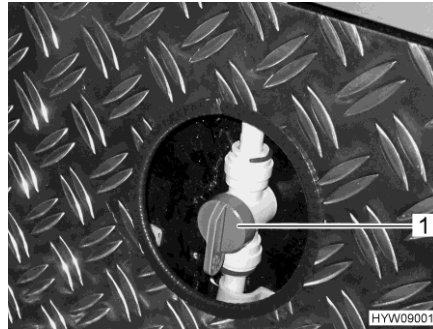

Fig. 183 Inlet valves (rear garage heating)
- Adjust the handle (Fig. 183,1) on the inlet valve for the rear garage heating so that it is parallel to the heating pipe. The rear garage heating is now working at maximum power.
- Set the handle (Fig. 183,1) on the inlet valve for the rear garage heating to the desired position. This enables the hot water distribution to the rear garage to be continuously adjusted.
- Set the handle (Fig. 183,1) on the inlet valve for the rear garage heating so that it is horizontal to the heating pipe. The rear garage heating is now switched off.